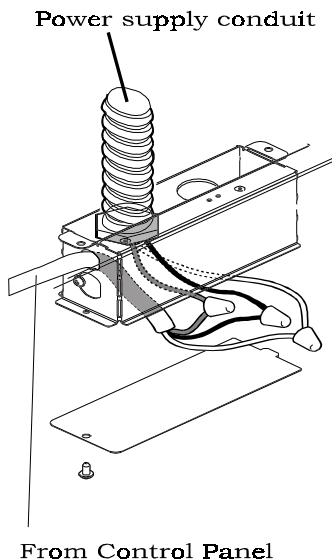

Figure 14
2. Remove the j-box cover as shown in Figure 14.